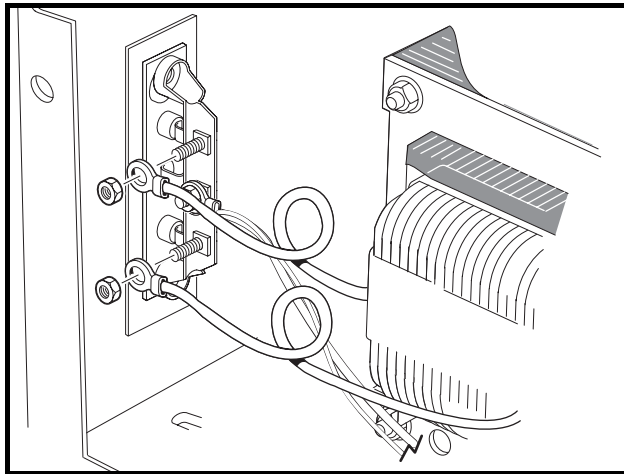

Figure 3-25 Remove Secondary Coil Wires From Heatsink
3. Disconnect transformer secondary coil wires from the heatsink (**Figure 3-25, Page 3-25**).